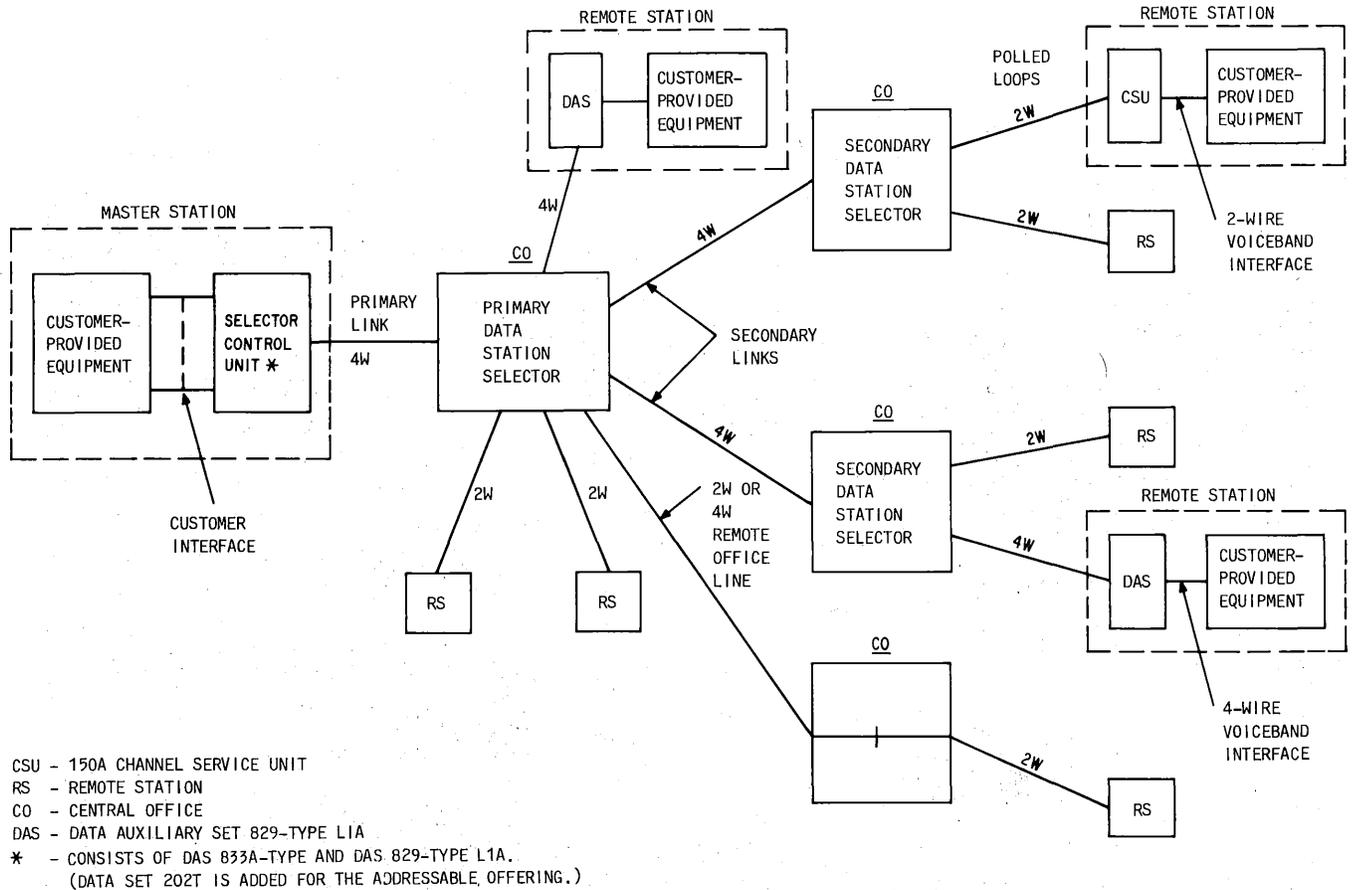

Fig. 1—DATAPHONE® Select-a-Station Service—Overall Block Diagram
1.12 To communicate with a remote station, customer signals may only have to pass through one DSS. In that case the DSS is designated a primary DSS. To more economically serve geographical groupings of remote stations, customer transmissions are sometimes routed through a secondary DSS. The primary DSS must remain connected to the secondary DSS long enough for the secondary DSS to make all of its port connections. This tandem DSS arrangement is allowed only in the controlled step option and the addressable offering which provide customer controlled connection of hold times. Operating design does not permit tandem arrangement of any third-level DSSs since total cycle time would become excessive. Fig. 1 is a block diagram of a typical DATAPHONE® Select-A-Station service.